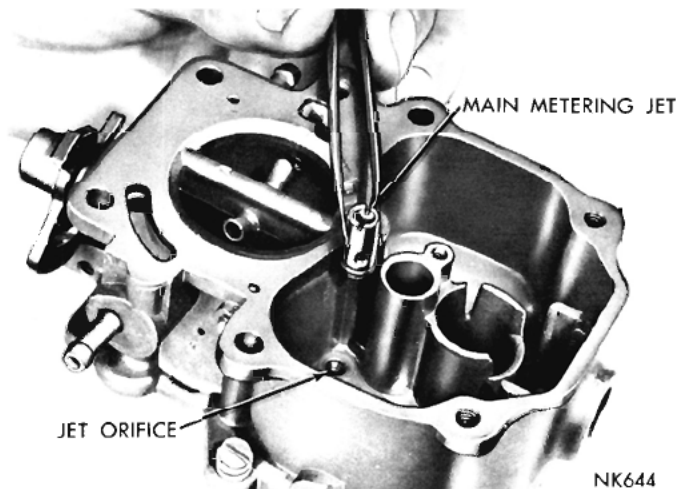

Fig. 5—Removing or Installing Main Metering Jet
(12) Remove the main metering jet and gasket, as shown in (Fig. 5).
(6) Install the main metering jet and gasket refer to (Fig. 5). Tighten securely.